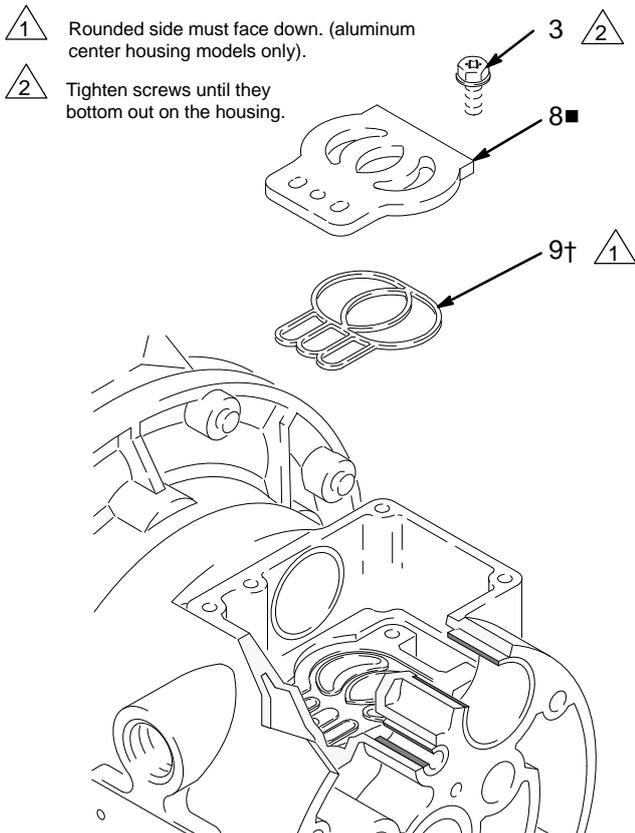

Fig. 10
5. Inspect the valve plate (8) in place. If damaged, use a Torx (T20) screwdriver or 7 mm socket wrench to remove the three screws (3). Remove the valve plate (8) and, on aluminum center housing models, remove the seal (9). See Fig. 10.
2. On aluminum center housing models, install the valve plate seal (9†) into the groove at the bottom of the valve cavity. The rounded side of the seal **must face down** into the groove. See Fig. 10.
3. Install the valve plate (8■) in the cavity. On aluminum center housing models, the plate is reversible, so either side can face up. Install the three screws (3), using a Torx (T20) screwdriver or 7 mm socket wrench. Tighten until the screws bottom out on the housing. See Fig. 10.